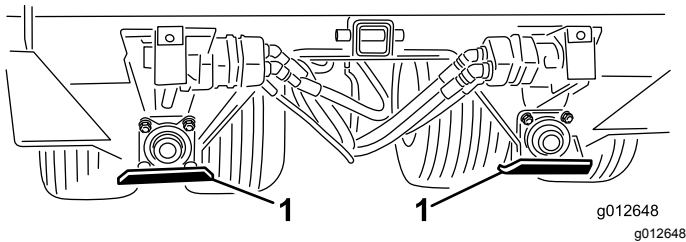

Figure 9
1. Position skid as shown in Figure 9.